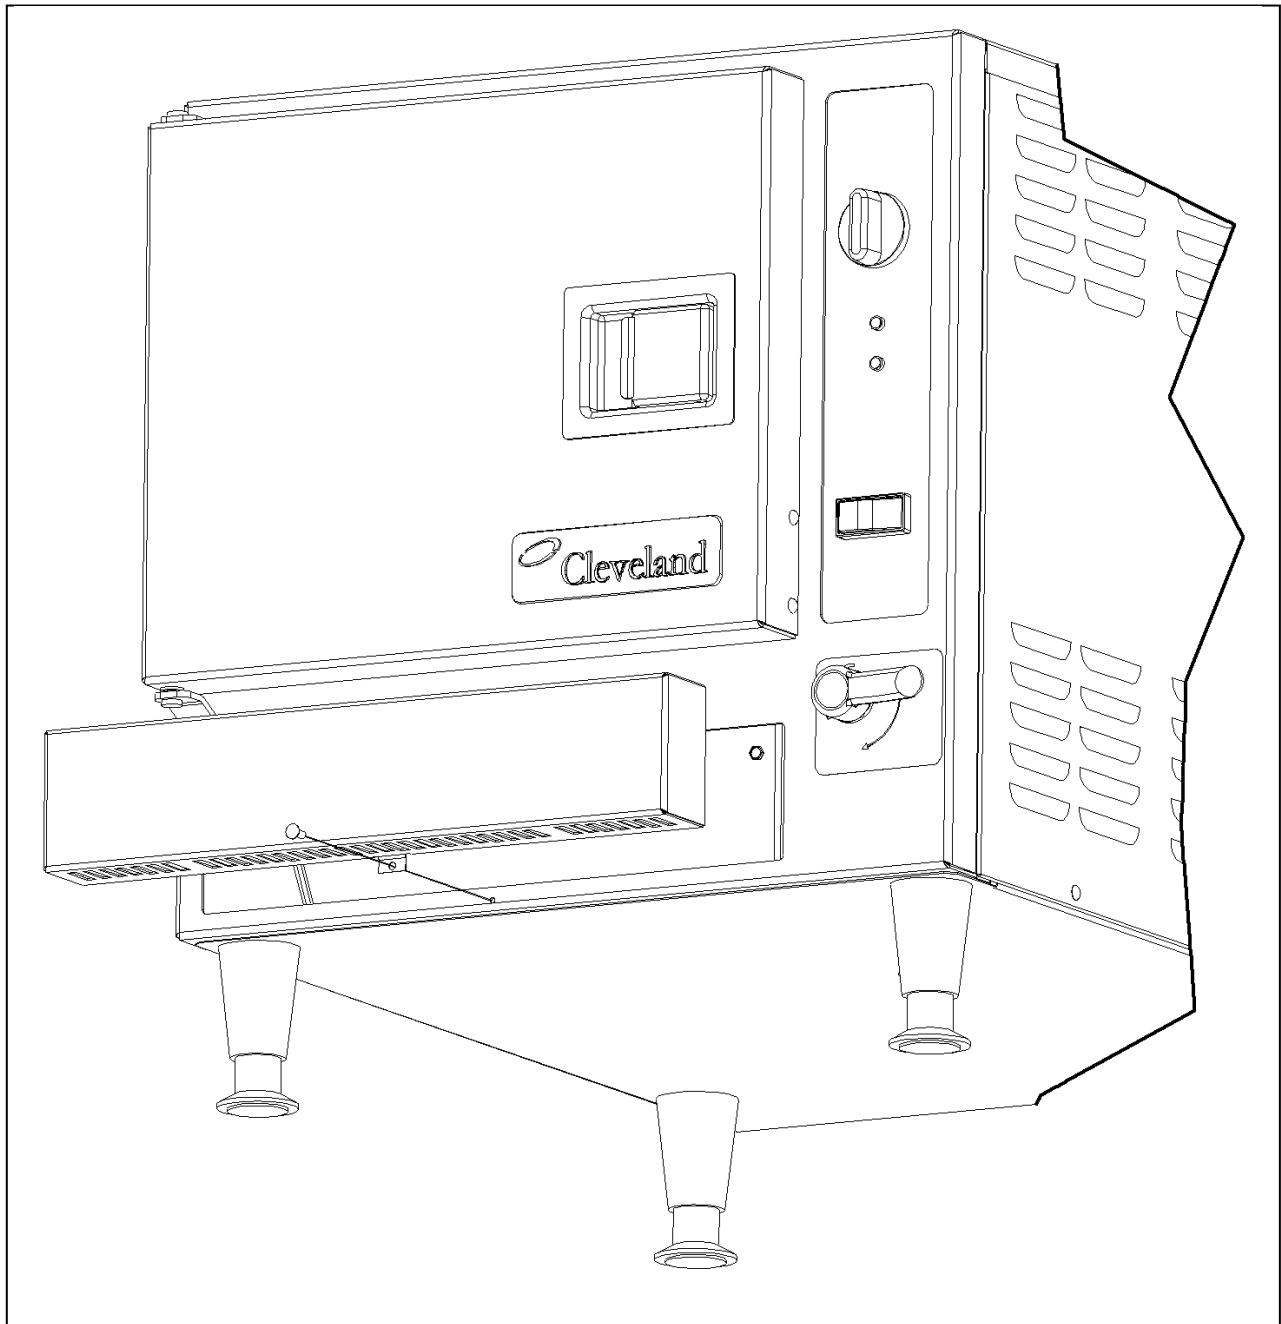

Figure 5-1
4. When the SteamChef is cool, install the Front Burner Cover and secure it with the provided screws. See Figure 5-1.
- 1. Place the Front Burner Cover in place as shown. See Figure 5-1.**